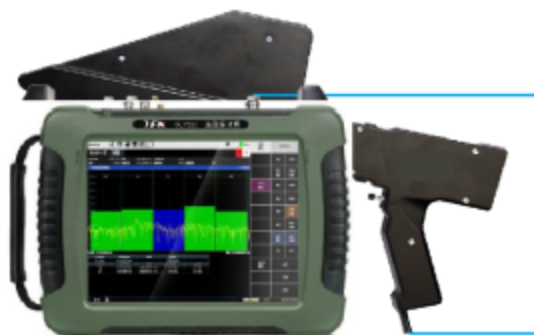

Figure 7.1 Schematic connection of hand-held DF antenna with RMT series spectrometer
Step 1. Connect the handheld DF antenna to the RF input port of the RMT series spectrometer, as shown in Figure 7.1: